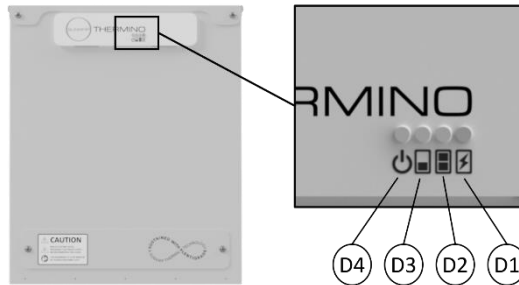

Figure 13 – Thermino ePlus Heat Battery LED operation
7. Check the front of the Heat Battery to ensure that the “power” and “heating element” LEDs are lit (see Figure 13 & Table 9).